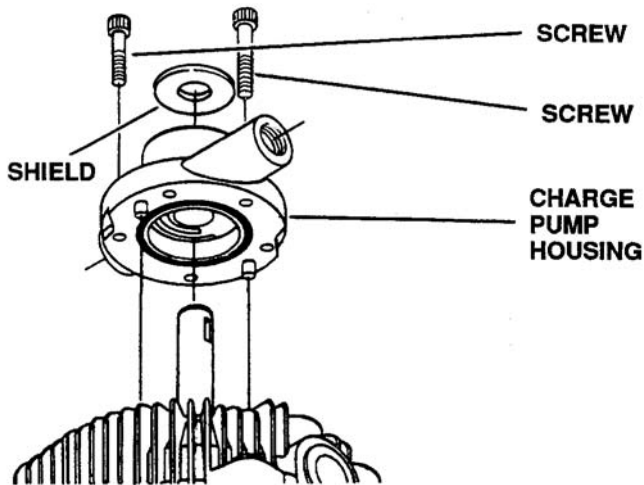

Figure 6-129. Charge Pump Installation
- Align charge pump dowel pins with holes in cover. Protect oil seal lip from keyways, snap ring grooves and shaft splines. Guide pump over shaft, carrier and rolls until pins engage holes. See Figure 6-129.